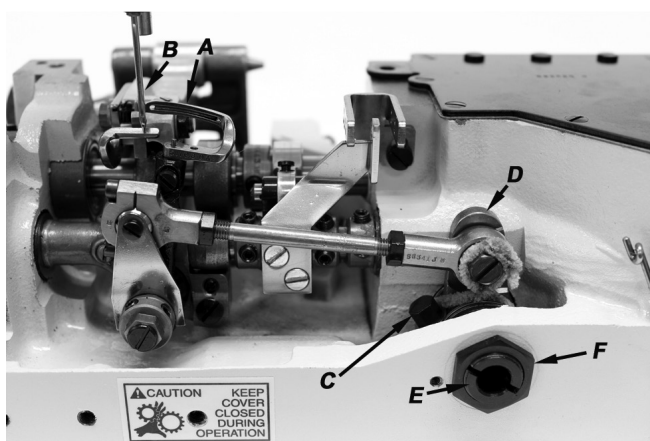
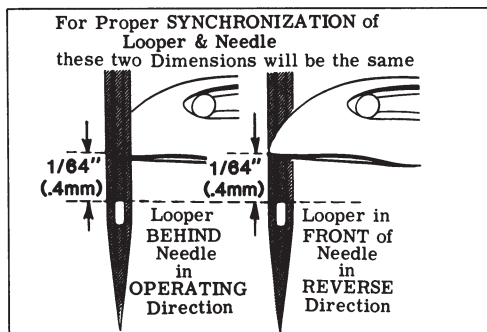

Fig 4
Fig 4A
Turn handwheel in the operating direction until the point of the looper (A, Fig. 4) moving to the left, is even with the left side of needle (B). Note the height of the eye of the needle with respect to the looper point (See Fig. 4A). Turn the handwheel in the reverse direction until the point of the looper again moving to the left, is even with the left side of needle (See Fig. 4A). If the height of the eye of the needle with respect to the looper point are the same, looper and needle motions are synchronized - a variation of .005 inch (.127mm) is allowable. If the distance from the eye of the needle to the point of the looper is greater when the handwheel is turned in the operating direction, the looper drive lever rocker shaft will have to be moved slightly towards the rear. Moving the shaft towards the front acts the reverse.
NOTE: The 1/64 inch (.4mm) dimension shown in Fig. 4A is for final setting of needle bar height.
Loosen screw (C, Fig. 4) in looper drive lever (D). A rod of .146-40 thd. or Union Special Screw No. 99271 can be threaded into the looper drive lever rocker shaft through the center of thrust adjusting screw (E). Tap or pull slightly as required to position shaft for proper synchronization. Tighten screw (C) securely and remove rod or screw used to position shaft.